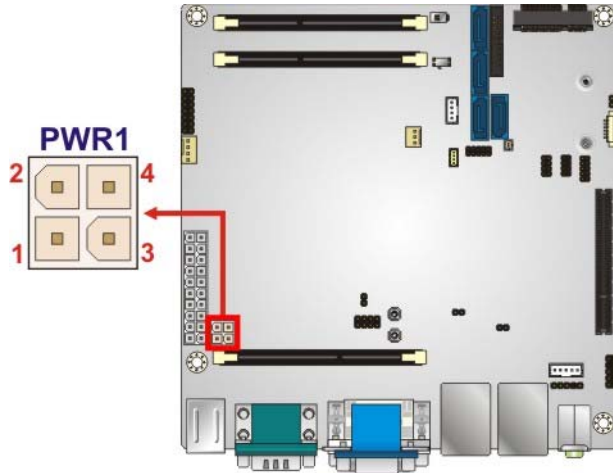

Figure 3-3: +12V ATX Power Connector Location
- CN Location:** See **Figure 3-3**